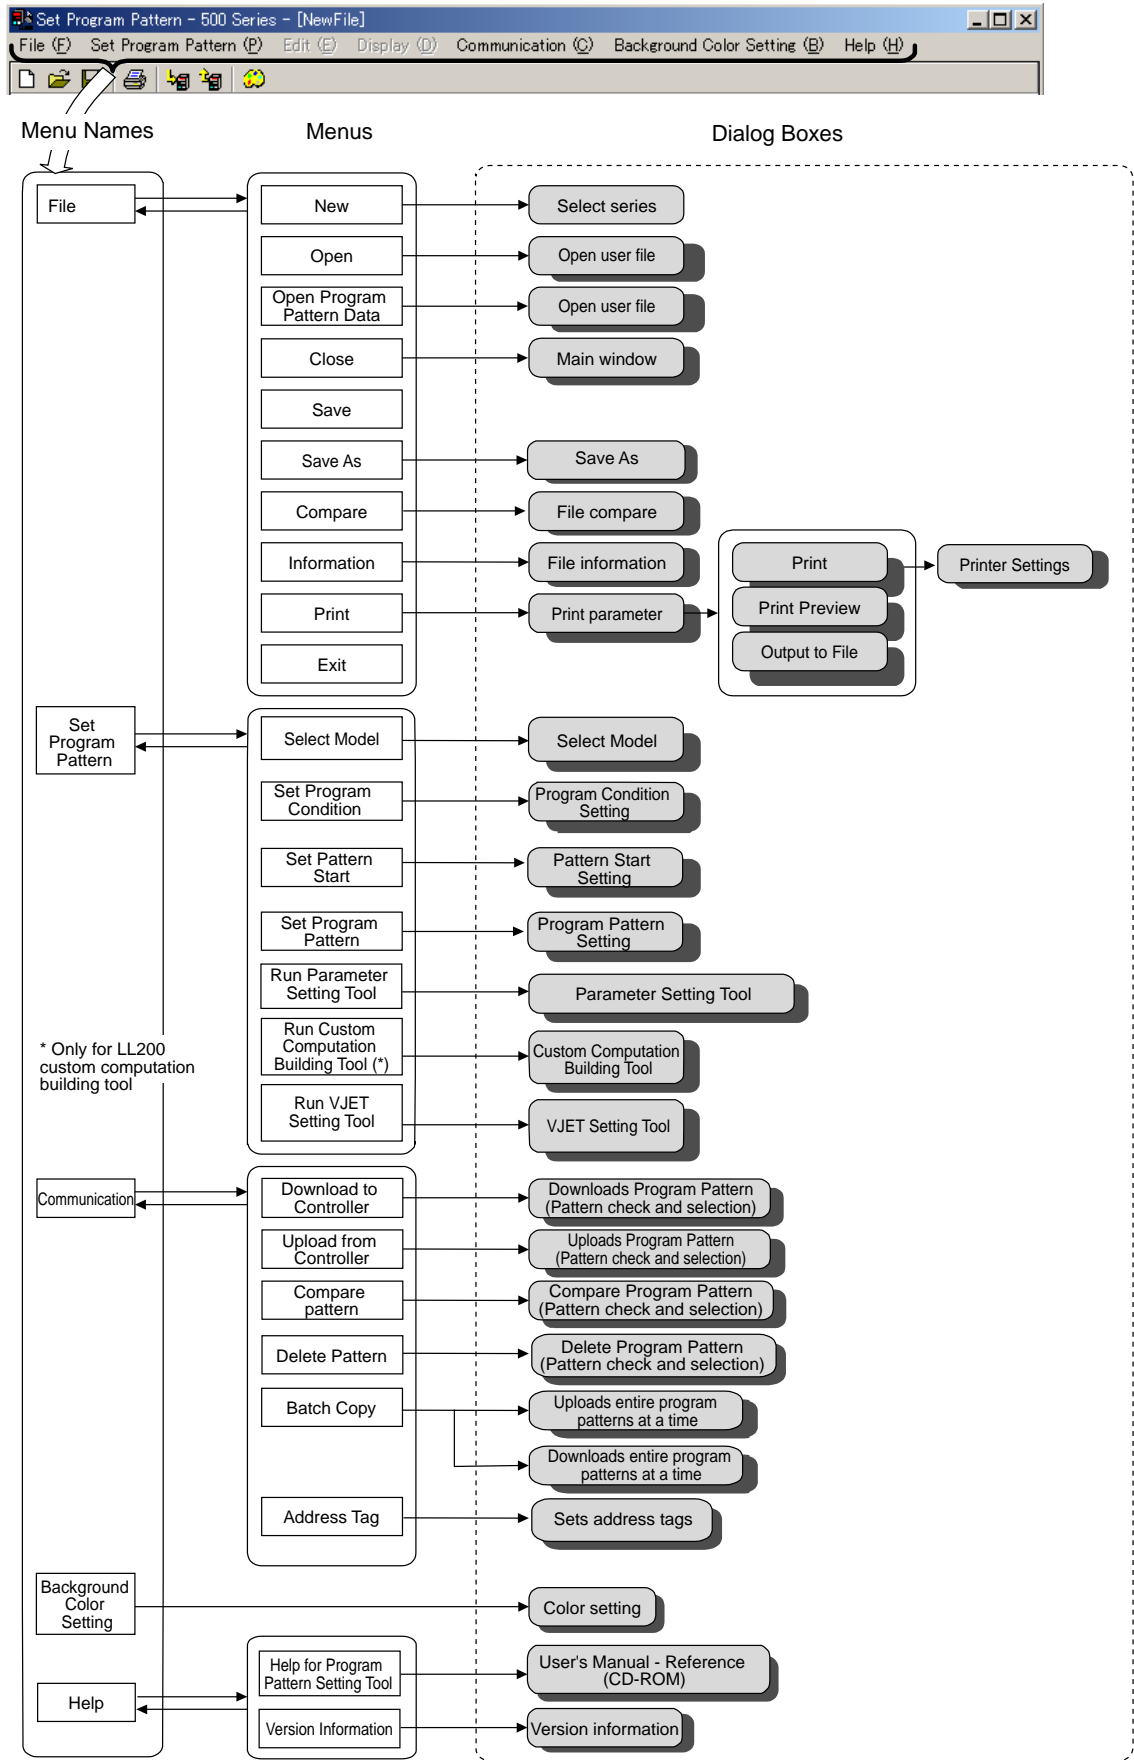

Figure 9.4.1 Tool Menu Items (for Program Pattern Menu)
- (1) Click a name on the menu bar.
- (2) Choose the command you wish to execute from the menu that appears (see Figure 9.4.1 or 9.4.2).